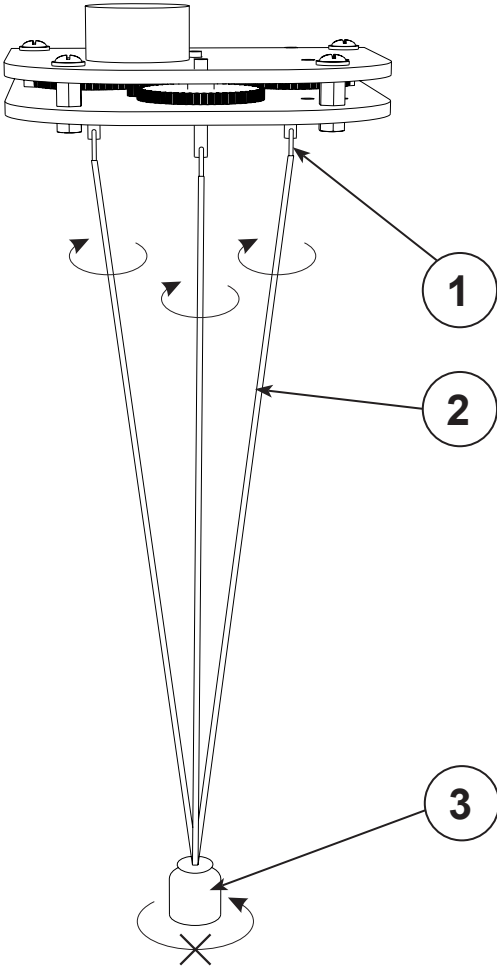

Figure 6.
7. Turn on the motor by pressing remote button once to make source threads (2) wind about axis. Hold the load (3) to prevent its rotation about axis and to prevent source threads (2) from intertwinning. If source threads (2) engage each other, bring them apart manually (fig. 6).